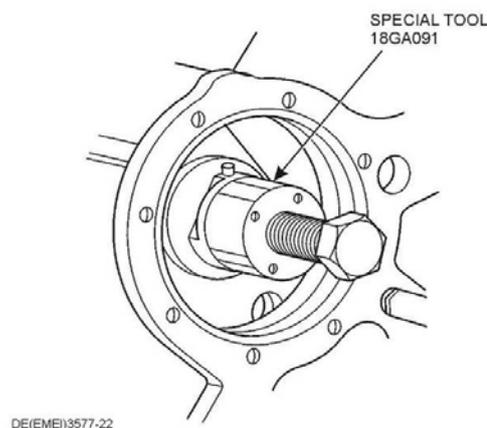

Figure 57 Transfer Gear and Spacer – Removal
- f. Remove the transfer gear and spacer. If required use special tool 18GA091 (Figure 57).